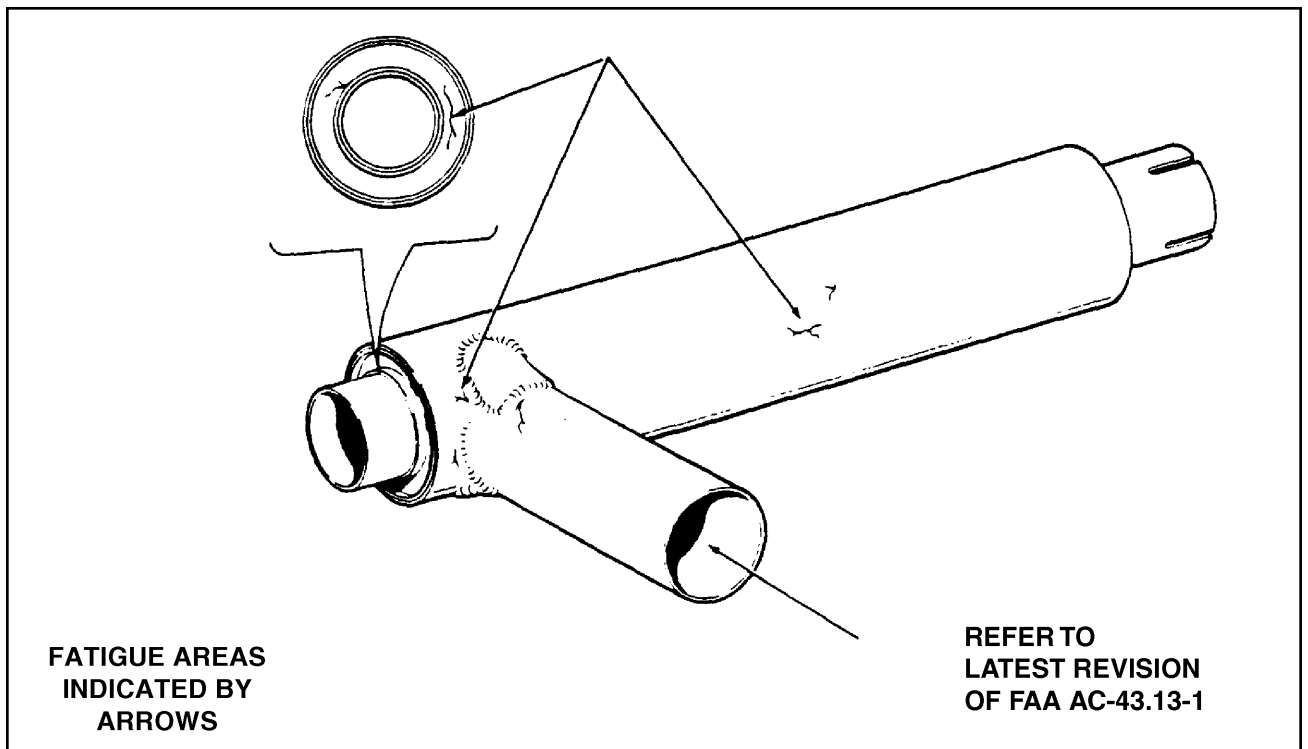

Figure 3-8. Typical Muffler Fatigue Areas
### (10) EXHAUST SYSTEM INSPECTION. (Refer to Figure 3-8 thru 3-9.)